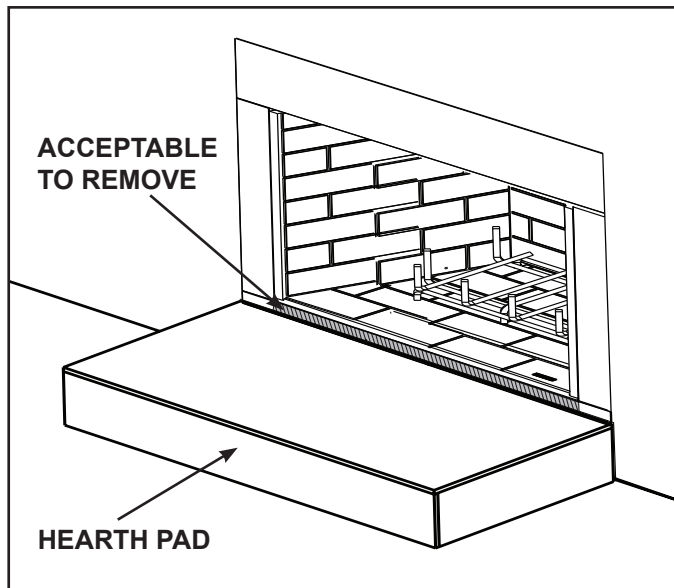

Figure 3.7 Solid Fuel Firebox
*Note: Location G is the appliance depth measurement, for installation depth reference Location E on Figure 3.7.
Minimum fireplace opening requirements for a standard 3/4 inch deep surround are shown in Figure 3.7. For smaller openings, a custom surround is available.
- A metal lip protruding above the hearth pad of the solid fuel firebox may be removed. See Figure 3.7.